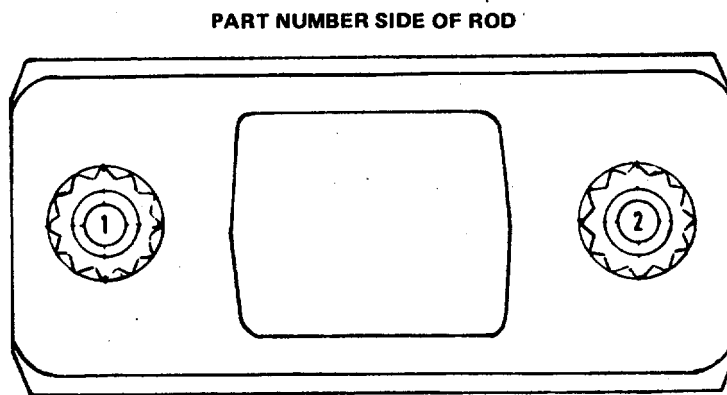

FIGURE 4-34. *Connecting Rod Torque Sequence.*
- (7) Inspect the connecting rod pin bushing bore and crankshaft bore.
- (a) Be sure to keep the connecting rod (1) and the cap together.
- (b) Assemble the rod (1) and tighten the machine bolts (10) to the correct torque in the correct sequence. FIGURE 4-34 shows the correct sequence, and Table 4-8 gives torque specifications.